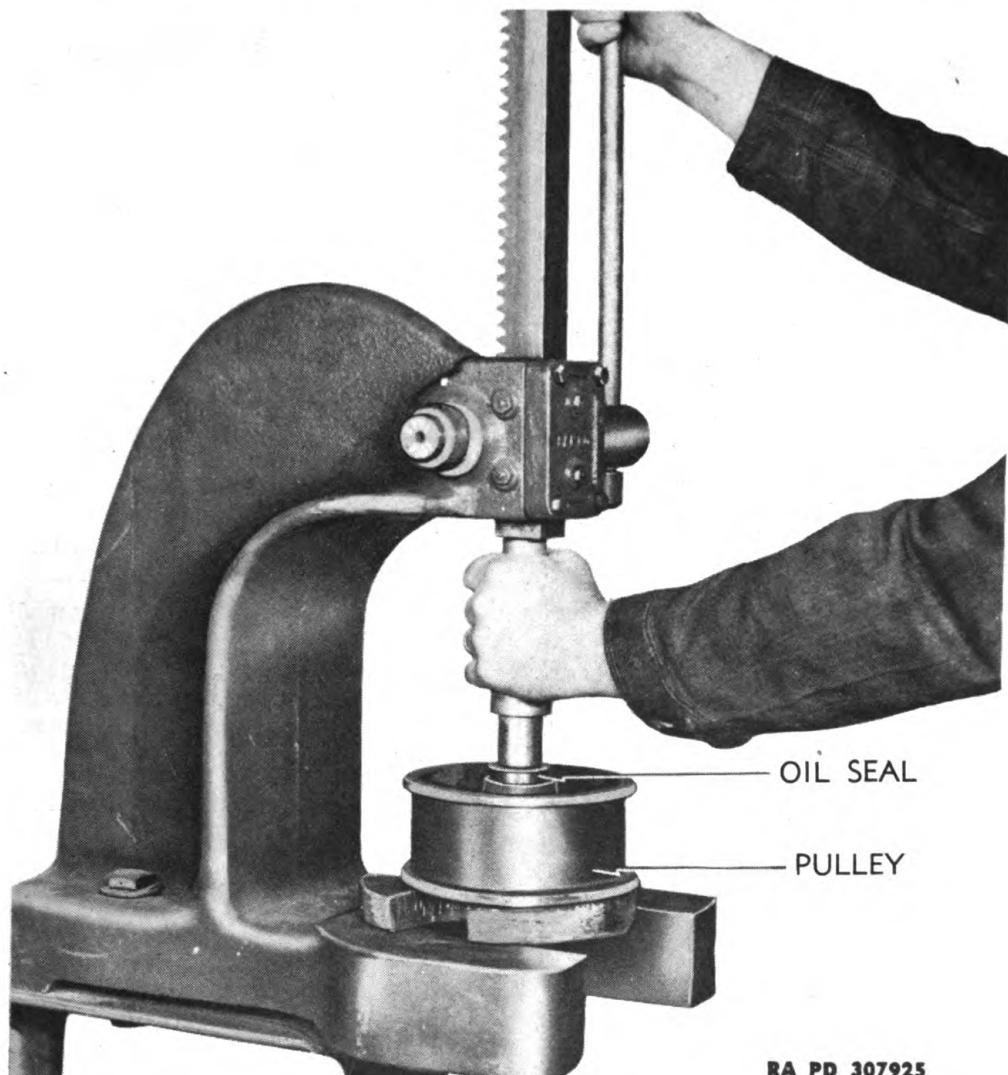

Figure 118 — Pressing Oil Seal Into Pulley Hub
d. **Assembly of Tightener.** Lubricate bearings with light engine oil and press one bearing into counterbore of pulley against shoulder. Press oil seal into hub (fig. 118) until seal is flush with end of hub